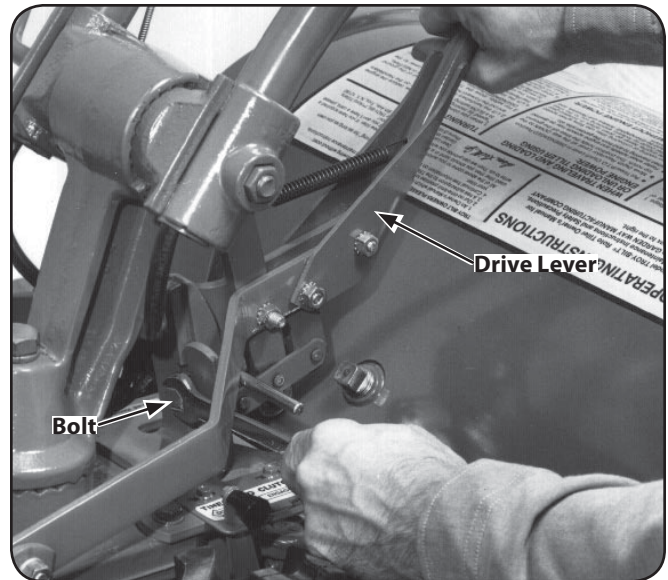

Figure 6-17
5. Use one hand to hold the drive lever in FORWARD while using a $\frac{1}{16}$ " wrench to loosen — don't remove — the bolt at the back of the belt adjustment block. See Fig. 6-17. The adjustment block should be free to move either up or down.